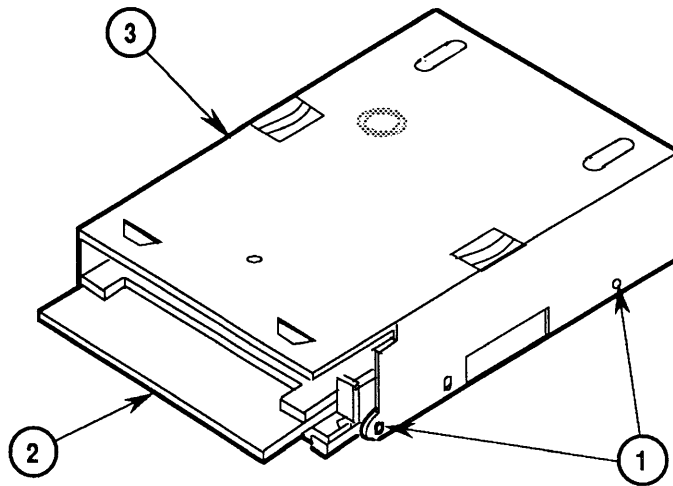

FIGURE 8
□ SHIPPING FIXTURE, 800K/1.4 MB DRIVES (Figure 8)